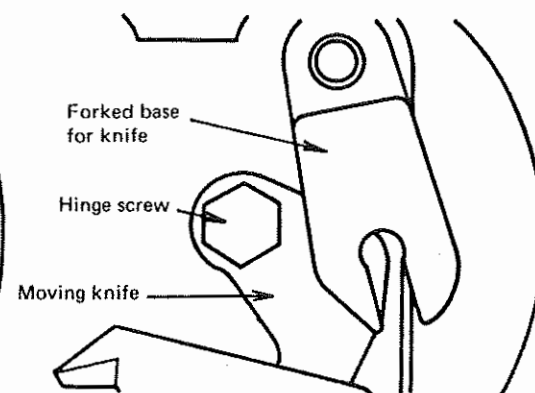

Fig. 48
- 3) Move the forked base for knife to the position shown in Fig. 48, and remove the hinge screw (Fig. 48).